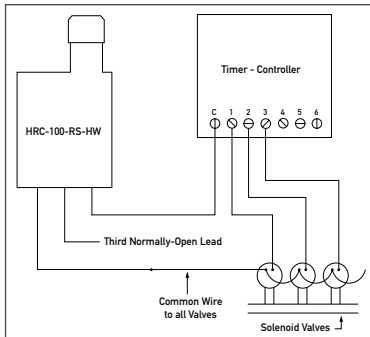

Figure 2: Wiring
- A. 24-Volt Solenoid Valves Only (No booster pump) (See Figure 2) With the two wires from the sensor at the controller, locate the "common ground" wire of the solenoid valves. If it is connected to the common terminal on the controller disconnect it. Attach one wire of the sensor to the "common" terminal (usually marked "COM") on the controller. Attach the other wire of the sensor to the common wire leading to the valves. Note: The common wire to the valves does not have to be interrupted at the controller. The sensor may be wired anywhere along the common wire line.